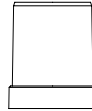

Figure 3
3. TX5U—Rainfall Sensor: includes a base, rainfall collector, and two mounting screws (Figure 3).